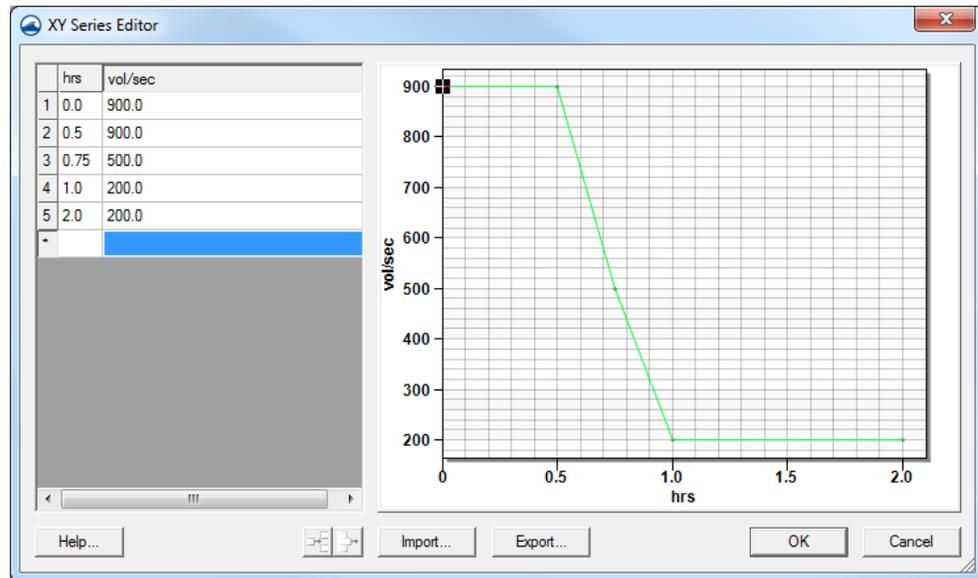

Figure 3 XY Series Editor
4. Click on the button under *Time Series File* to review the hydrograph that will represent the inflow. This will open the *XY Series Editor* as shown in Figure 3.